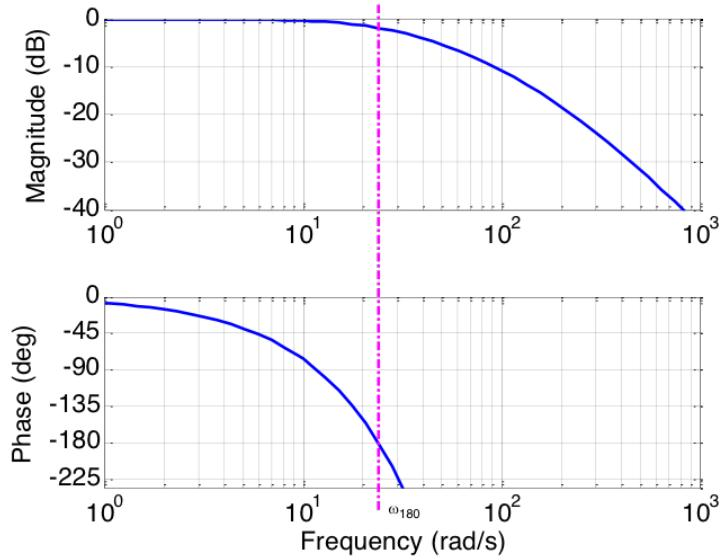

Figure 2: Bode plot of $G(s)$ with time delay included. Compare to Figure 1.
- (a) The new Bode plot can be created using the `set(gs, 'iodelay', 0.1)` command in Matlab (see Lecture 33) and is shown in Figure 2. The time delay causes the phase plot to cross -180 deg at $\omega_{180} = 23$ rad/s, as shown by the dash-dotted line. The magnitude Bode plot is approximately -3 dB at this frequency, so the time delay causes the gain margin to drop to $GM = 3$ dB.